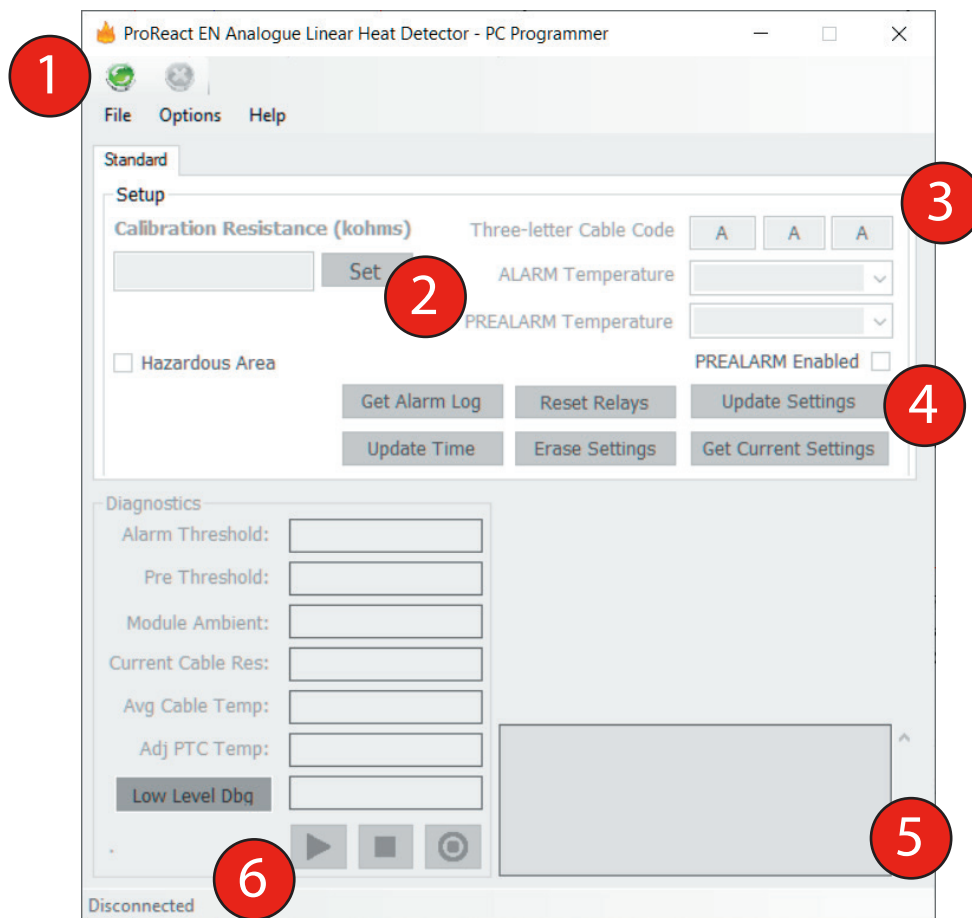

Figure 1. Screenshot of PC Programmer Software
8. After the installation is complete or a PACC unit has previously been connected to this computer, click the green connect icon on the toolbar, shown at 1 in the screenshot in Figure 1.
2. To retrieve the settings from the PACC unit. Press the "Get Current Settings" button shown at 4 in Figure 1. This will download the parameters from the PACC unit and populate the programmer software input controls accordingly.
4. The first parameter to be entered should be the calibration resistance. This may only be done when the button next to the calibration resistance input box shows "Set" (shown at 2 on Figure 1). If the button shows "Unset", the calibration resistance input box will be greyed out. In this case, click "Unset" first to enter a new calibration resistance.
7. Next enter the three letter code of the ProReact EN Analogue sensor cable attached to the PACC unit in the corresponding input boxes next to the "**Threeletter Cable Code**" label shown at 3 in Figure 1.
9. Once all the paramters have been set, press the "**Update Settings**" button, shown at 4 in Figure 1, to download the settings to the PACC unit.
1. To check the diagnostic information from the ProReact EN Analogue Composite Control unit, click the green play button shown at 6 in Figure 1.